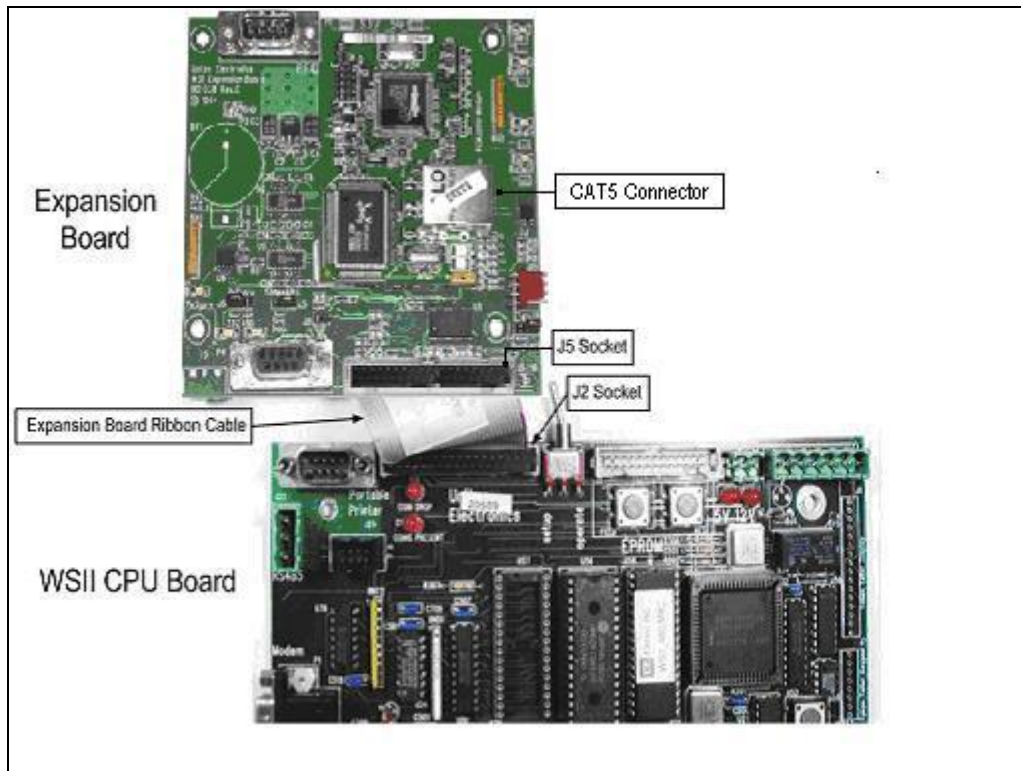

Figure 10. Ethernet Cable Wiring Inside the Wash Select II
3. Thread the power cord (with the 3 exposed conductors) through the hole in the bottom of the line insulator. Continue to feed it through until about  $\frac{1}{2}$ " of outer insulation is protruding through the top. (See Figure 10)